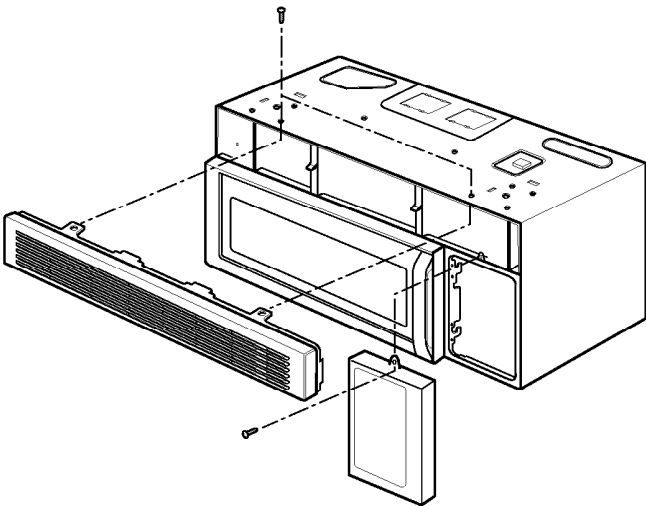

Figure 11
(Figures 11 Through 13)
- (1) Remove the vent grille by removing two screws. (Figure 11)
- (2) Remove the controller by removing a screw and disconnect all wire leads. (Figure 11)